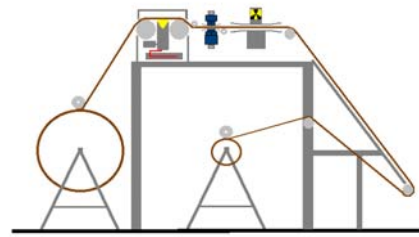

Fig.4: Incoming checkpoint
- a) Incoming cloth checkpoint, grey, white or dyed cloth (Fig.4)